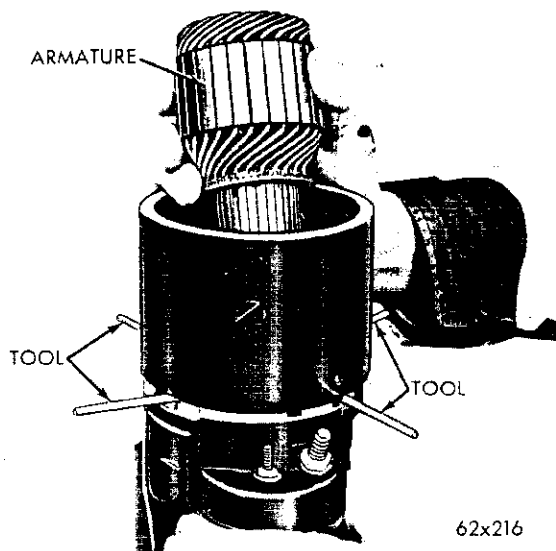

Fig. 41—Installing the Starter Armature
(19) Install the armature thrust washer on the brush holder plate (Fig. 19) and enter the armature into the field frame and gear housing (Fig. 41); carefully engaging the splines of the shaft with the reduction gear.